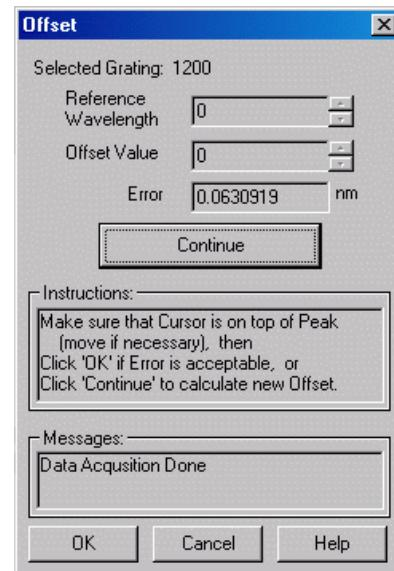

Figure 66. Offset dialog box
2. In the Spectrograph Calibration dialog box, click on the **Offset** button. This will open the Offset dialog box (Figure 66).